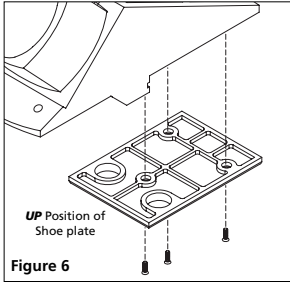

Figure 6
3. Remove shoe plate; place new or alternate shoe. Make sure shoe is in the "up" position when attaching (See Figure 6).